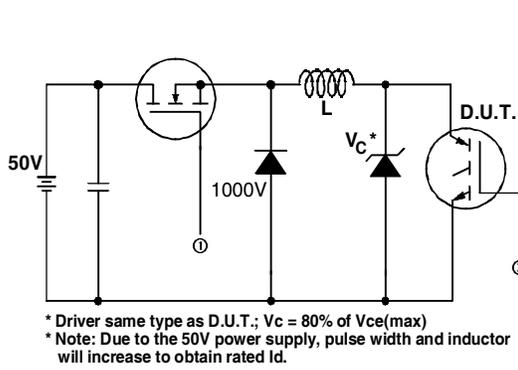

Fig. 13a - Clamped Inductive Load Test Circuit
- ② $V_{CC} = 80\%(V_{CES}), V_{GE} = 20V, L = 10\mu H, R_G = 10\Omega,$ (See fig. 13a)
- ③ Repetitive rating; pulse width limited by maximum junction temperature.
- ④ Pulse width $\leq 80\mu s$; duty factor $\leq 0.1\%$.
- ⑤ Pulse width $5.0\mu s$, single shot.